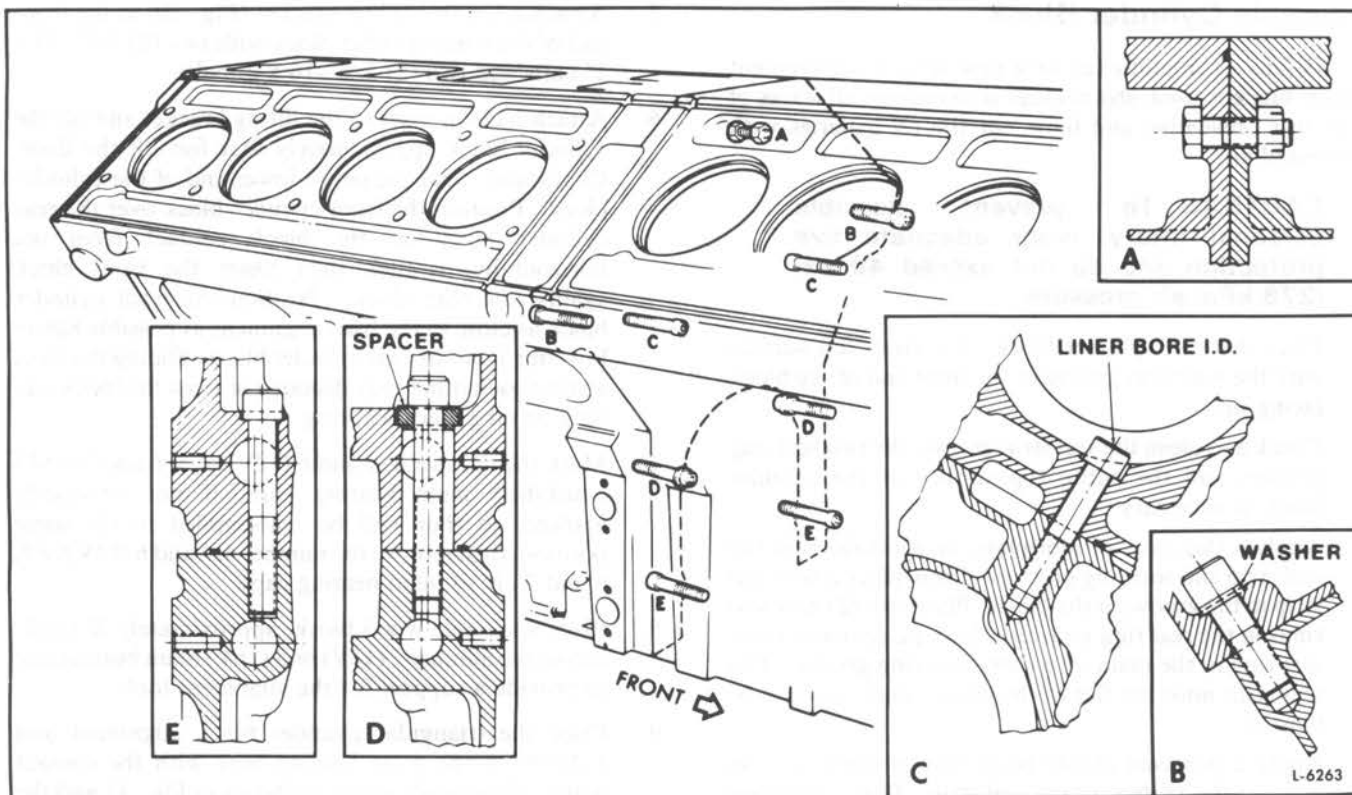
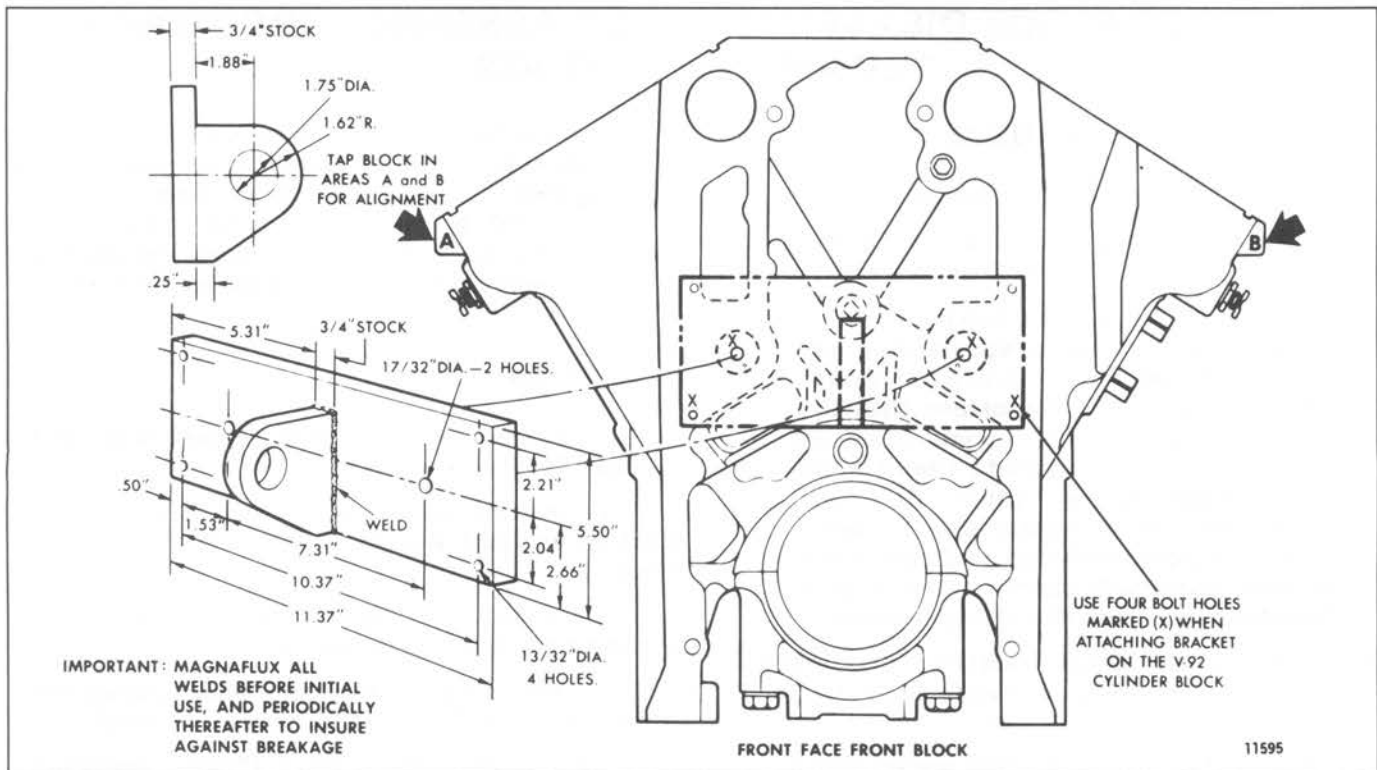

Fig. 9 - Location of Cylinder Block Attaching Bolts
Fig. 10 - Details of Cylinder Block Lifting Bracket
2. Refer to Fig. 9 and remove the two "B" bolts and special washers from the oil drain back cavity.
CAUTION: NEVER use eye bolts or any other commonly purchased hardware to lift the cylinder block. Due to the weight of the blocks, it is important that the lifting brackets are constructed as shown in Fig. 10 and that all weld joints are magnafluxed prior to and periodically after initial use. Severe injury to personnel and destruction of engine parts will result if the engine breaks away from the lifting brackets.
3. Attach a suitable lifting bracket (Fig. 10) to the end of the front cylinder block with two (2) 1/2"-13 x 2" bolts and two (2) 3/8"-16 x 2" bolts.
5. Refer to Fig. 9 and remove the seven (7) remaining bolts A, C, D and E securing the two cylinder blocks together. Also, remove the two (2) spacers used on the two (2) "D" bolts shown in inset "D" of Fig. 9. Then lift the front cylinder block off the rear cylinder block and remove the seal strip from the groove in the rear block.
- Apply a thin coat of lubriplate, or equivalent, in the seal strip and seal ring grooves. Then, place a new seal strip in the groove in the block. Place two (2) new seal rings in the seal ring grooves. Also, place one (1) new seal ring in the main oil gallery seal ring groove. The seal strip must lay flat in the groove and must not be twisted.
- Attach a suitable lifting bracket (Fig. 10) to the front end of the front cylinder block with two (2) 1/2"-13 x 2" bolts and two (2) 3/8"-16 x 2" bolts.
11. Lubricate the threads and the contact face of the cylinder block attaching bolts “A”, “C”, “D” and “E” with a small amount of International Compound No. 2, or equivalent. Place a spacer on each “D” bolt as shown in inset “D” of Fig. 9. Then, refer to Fig. 9 for their location and install all of the bolts, except the two “B” bolts. Do not tighten the bolts at this time. If it becomes necessary to shift the front cylinder block when installing the attaching bolts, use a soft hammer and tap at points “A” and “B” (Fig. 10).
12. Move a dial indicator across the bottom faces (oil pan rail) of the cylinder blocks. The mismatch, if any, between the bottom faces of the two blocks must be equal on both sides of the cylinder block assembly within .002". If it is necessary to shift the front cylinder block when checking the alignment, tap at points “A” and “B” (Fig. 10) with a soft hammer to align the blocks.
13. Tighten the four (4) “C” and “D” bolts to 160–170 lb–ft (217–231 N•m) torque first, then tighten the two (2) “E” bolts to 160–170 lb–ft (217–231 N•m) torque. Now tighten the “A” bolt nut to 165–175 lb–ft (224–238 N•m) torque.
18. Install the “B” bolts and washers (Fig. 9) using Power Universal Socket J 25451–4 and Hex Bit J 25451–5. After the bolts are installed, they should be tightened to 240–250 lb–ft (325–339 N•m) torque, using wrench J 25451–7.